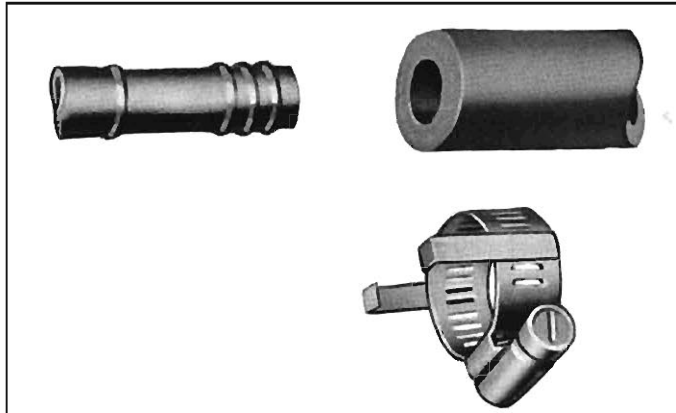

Fig. 11-17—Hose, Clamp and Fitting
**Hose Clamps (Fig. 11-17 and 11-18)**